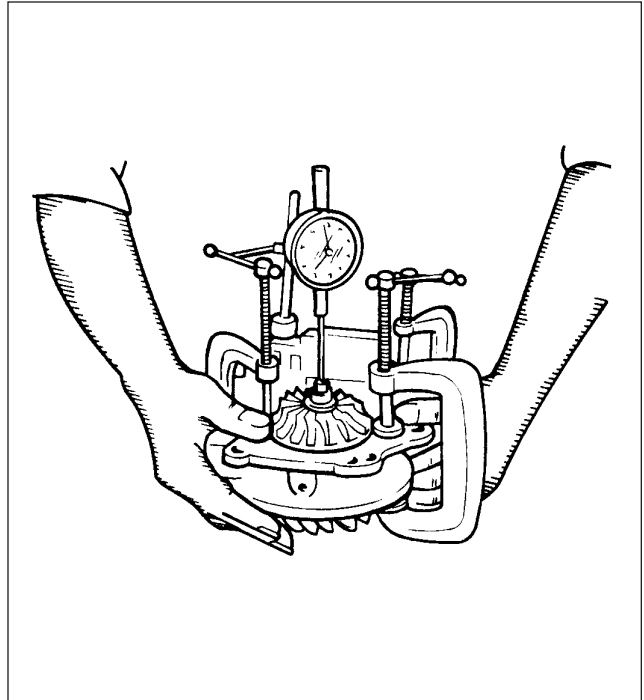

Figure 81-2. Measuring Turbine Shaft End Play
7. Use two C-clamps as shown in Figure 81-2 to overcome the tension of the spring ring and hold the turbine shield away from the turbine wheel.
8. Attach a dial indicator to the bearing housing so that the indicator point is resting on the end of the shaft. Push up on the turbine wheel as shown in Figure 81-2 to measure shaft end play. The normal shaft end play is 0.005 to 0.009 inch. If shaft end play is excessive, rebuild the turbocharger.